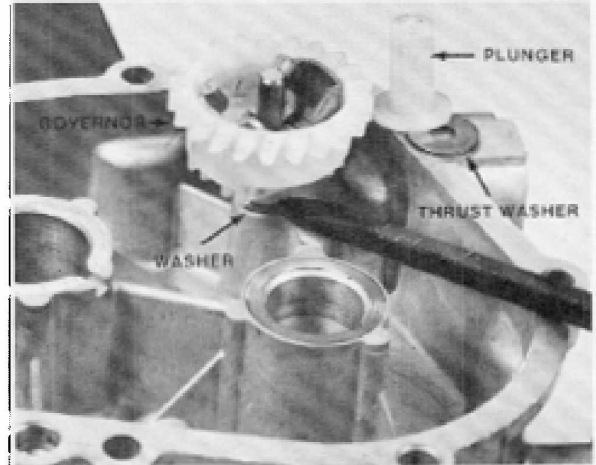

Figure 4-52
2. Place a small amount of grease on the governor plunger and thrust washer. Install them on the flyweight shaft. See Fig. 4-52.